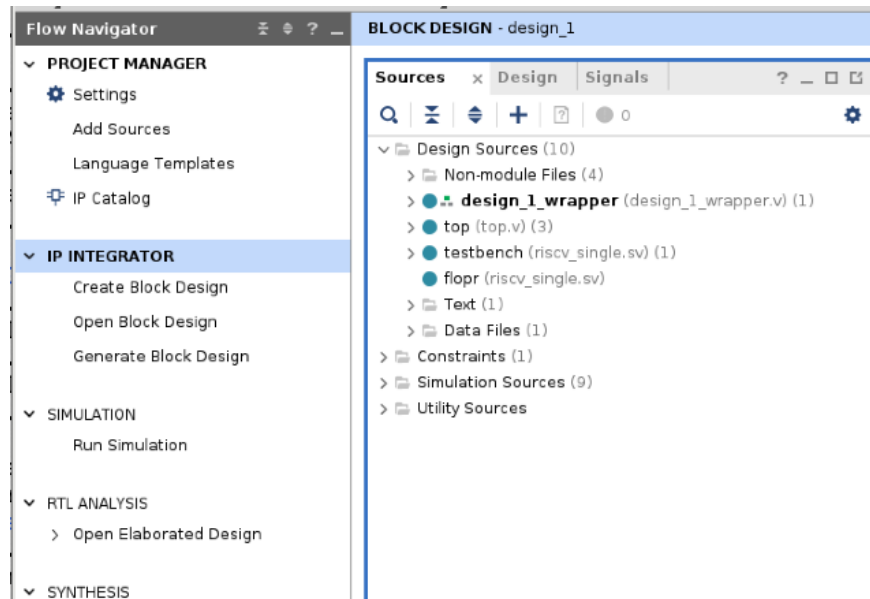

Figure 3: Open Block Design and Sources Window
If you need to make modifications to your files, you will need to do so in Vivado now because **the script will copy the file on your desktop into the project directory**. Modifications made to the file on your desktop will not be reflected in the project. Go to Open Block Design on the left panel and then select the Sources tab in the upper left window (i.e., Figure 3). You'll have to do a bit of digging through
1. Navigate to the sources view as explained in the previous section under step 5 and shown in Figure 3. You'll want to descend the source tree just like it was explained before, but this time open `imem.sv` instead of `riscv_single.sv`. Inside this file, you will find the following line:
1. Click Add Sources under the Project Manager heading on the left panel (i.e., Figure 3).